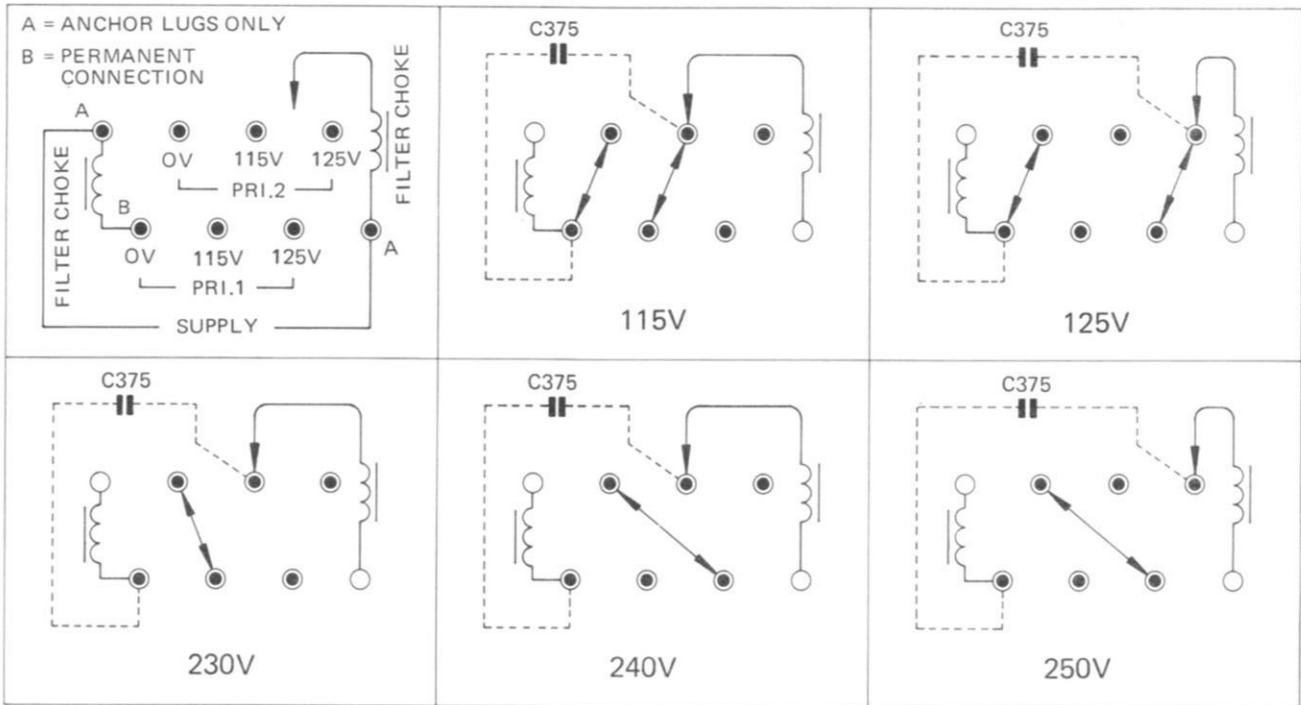

Fig. 4.1 Mains transformer voltage settings
3. Refer to Fig. 4.1 for connections applicable to each voltage range.